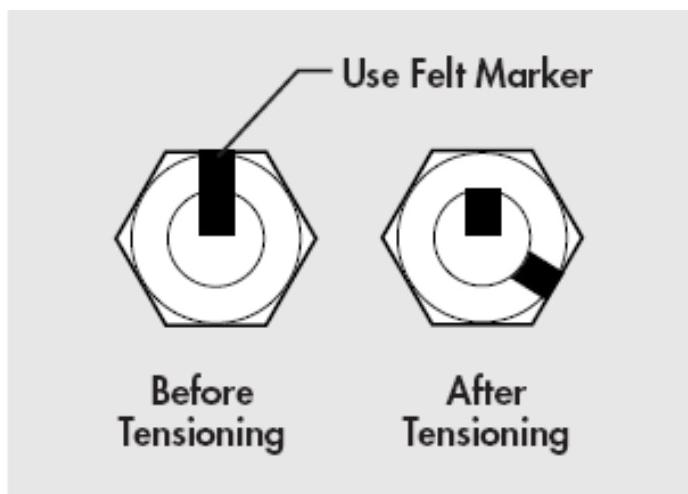

FIGURE 1-1A:
Step 5. Using a **Felt-Tip Marker**, mark the nuts and ends of the bolts with a straight line as shown above in **Figures 1-1a (Bolts shorter than 4 diameters) and 1-1b (Bolts longer than 4 diameters)**
- Moved **1/3 TURN (120°)** as shown in **Figure 1-1a, shorter than 4 diameters** (“After Tensioning”) Or